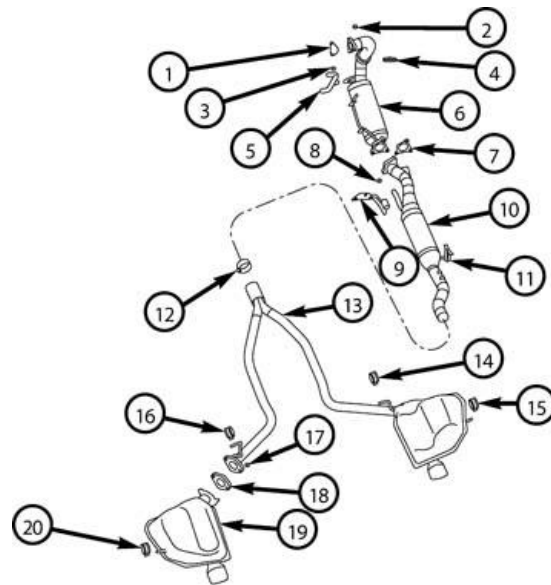

Figure 10 – Exhaust System
20. Remove the nuts (8) and the SCR (10) (Figure 10).
21. Remove and discard the flange gasket (7) (Figure 10).